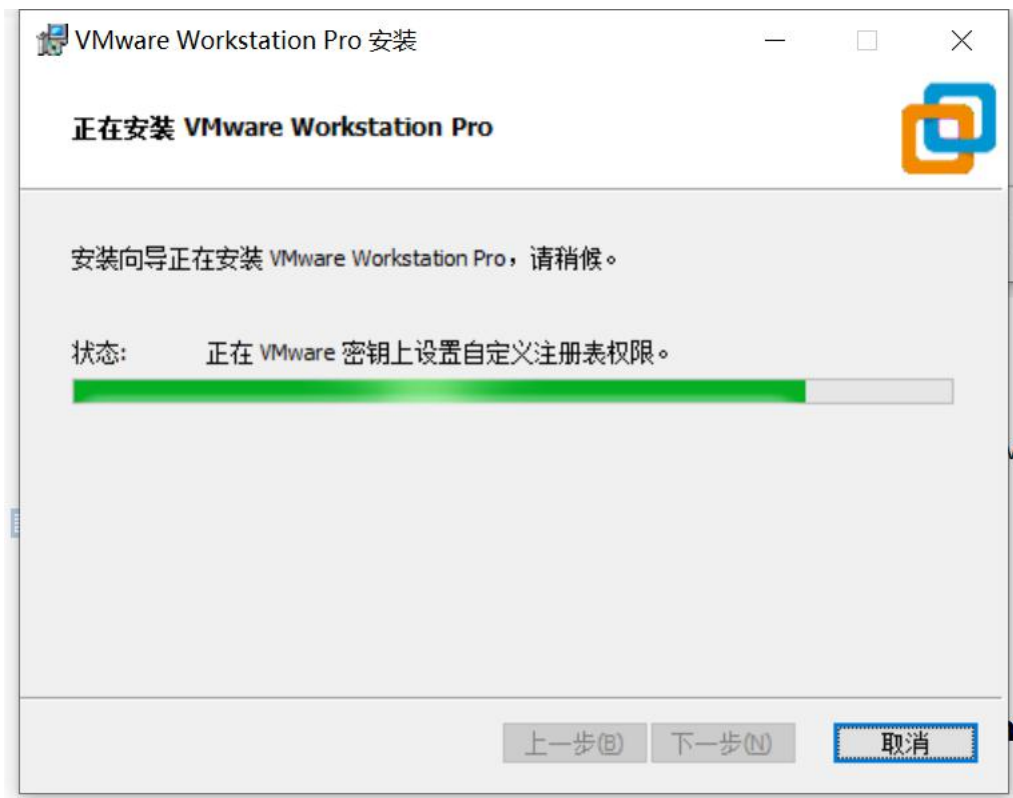

Figure1.12 VMWare installing
安装(I) to start installation process (see figure1.12)